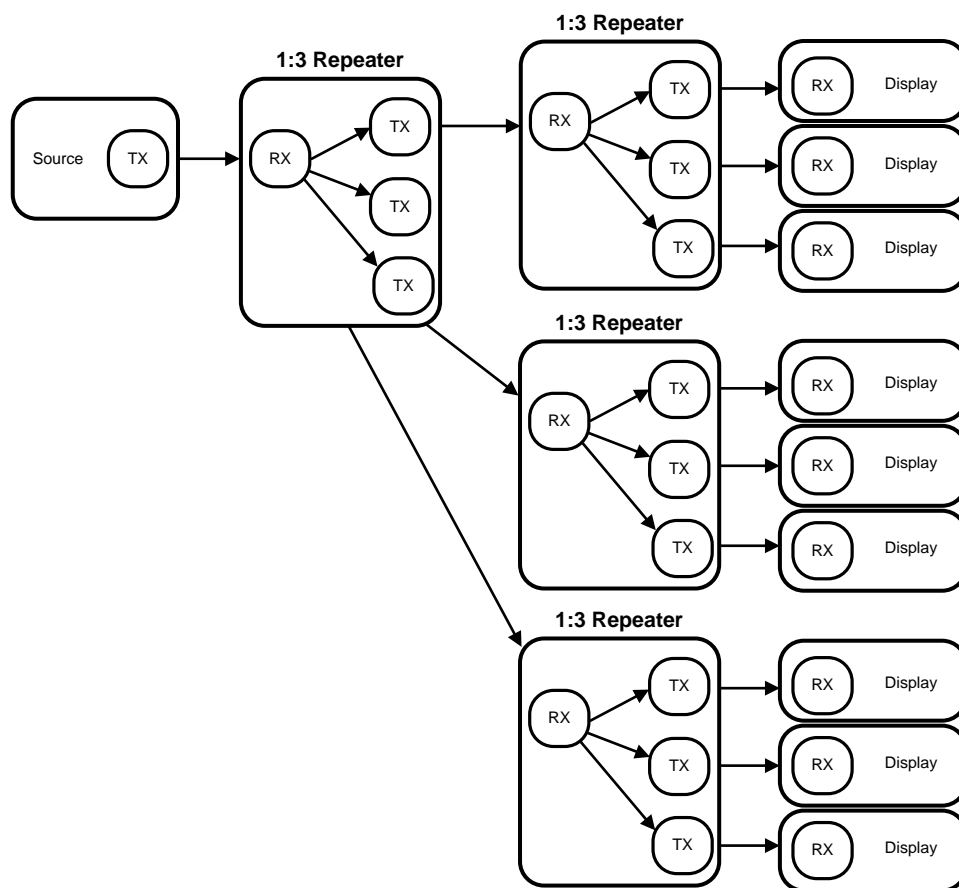

Figure 20. Maximum Repeater Application
In a repeater application, in this document, the DS90UB925Q-Q1 is referred to as the Transmitter or transmit port (TX), and the DS90UB926Q-Q1 is referred to as the Receiver (RX). Figure 20 shows the maximum configuration supported for Repeater implementations using the DS90UB925Q-Q1 (TX) and DS90UB926Q-Q1 (RX). Two levels of Repeaters are supported with a maximum of three Transmitters per Receiver.